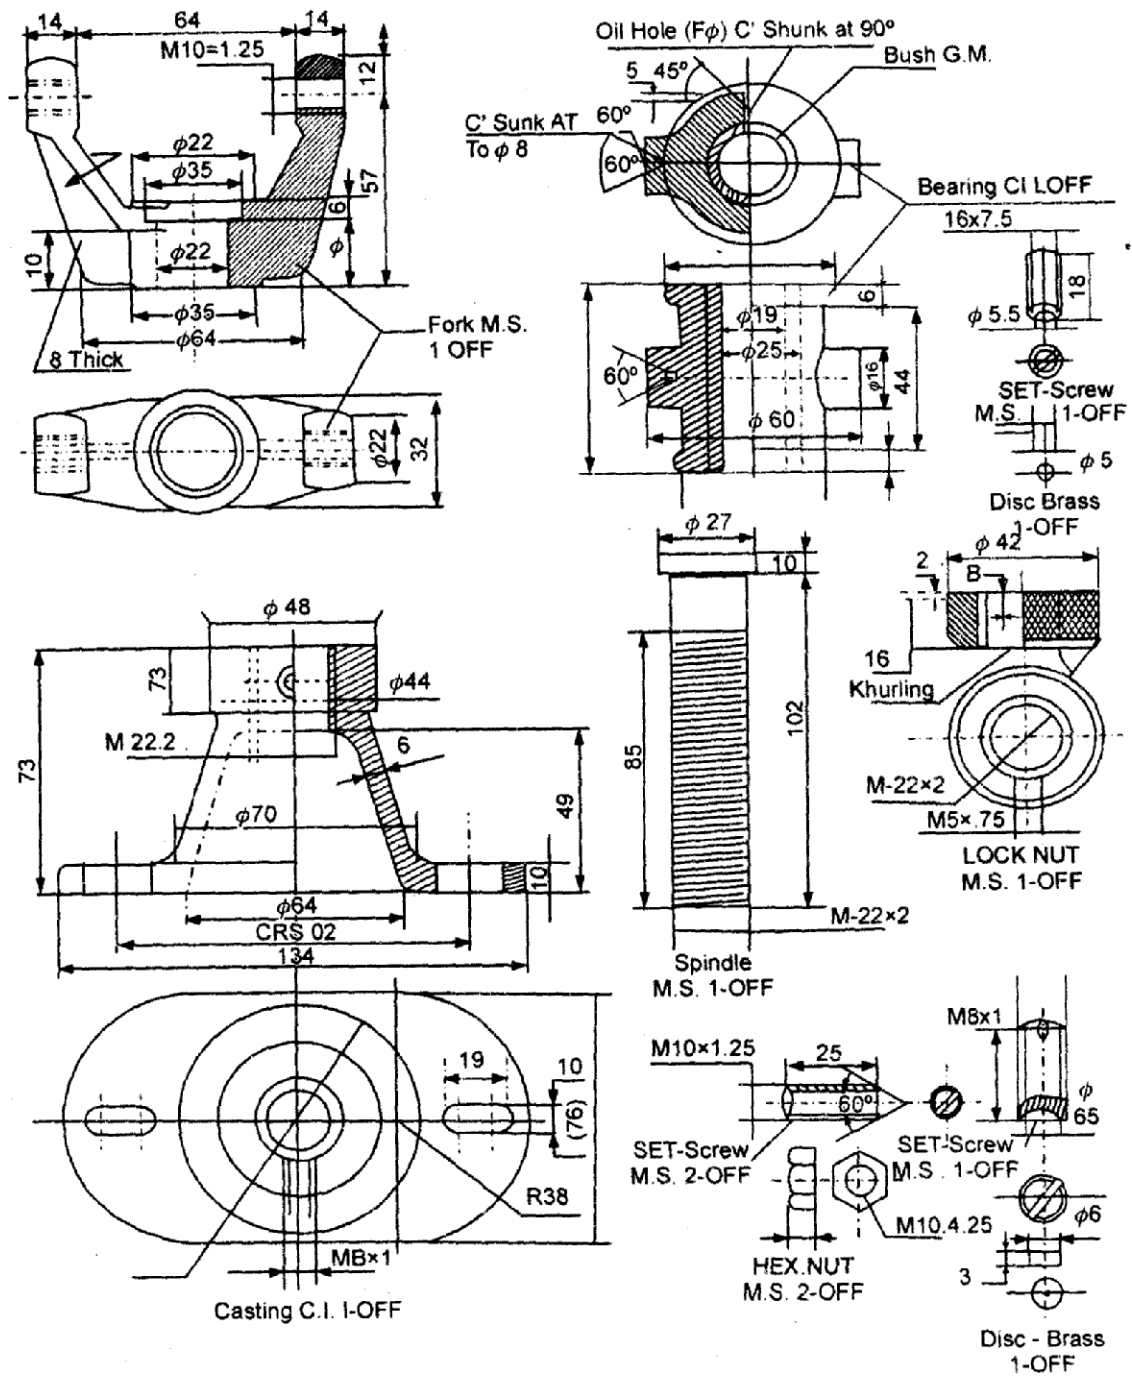

Fig.2
7. Detail of swivel bearing are shown in Fig. 2. assemble the part and draw.(a)Front view right half in section, and (b) Top views Also prepare a part list and Bill of Materials.